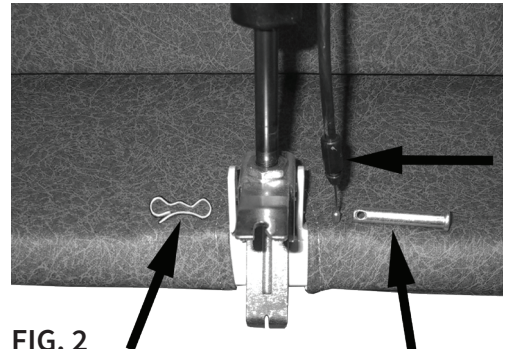

FIG. 2
2. Have a second person hold the back of chair steady and remove the bow-tie cotter pin and clevis pin (FIG. 2). The operator can now be rotated on threaded end of gas spring.